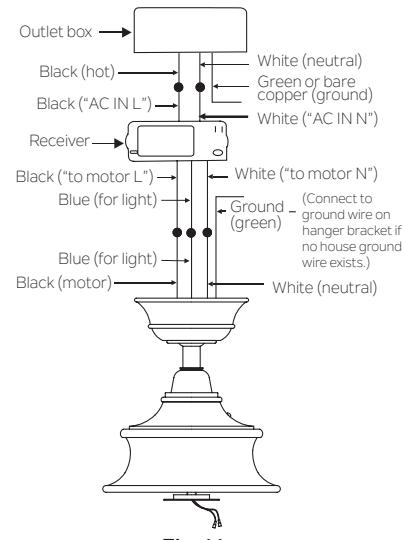

Fig. 14
**Step 2.** Motor to Receiver Electrical Connections: (Fig. 14) Connect the black wire from the fan to the black wire marked "TO MOTOR L" on the receiver.
**Step 3.** (Fig. 14) Receiver to House Supply Wires Electrical Connections: Connect the black (hot) wire from the ceiling to the black wire marked "AC in L" from the receiver. Connect the white(neutral) wire from the ceiling to the white wire marked "AC in N" from the Receiver. Secure the wire connections with the plastic wire nuts provided.
**Step 4.** (Fig. 14) If your outlet box has a ground wire (green or bare copper) connect it to the fan ground wires; otherwise connect the hanging bracket ground wire to the mounting bracket. Secure the wire connection with a plastic nut provided. After connecting the wires, spread them apart so that the green and white wires are on one side of the outlet box and black and blue wires are on the other side. Carefully tuck the wire connections up into the outlet box.